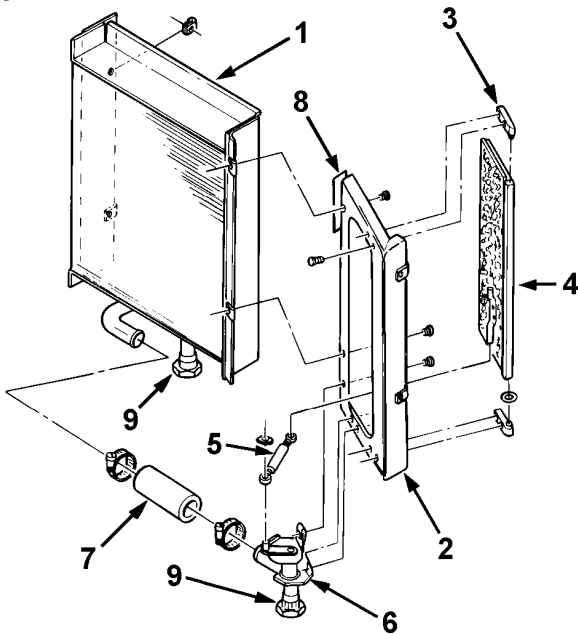

Figure 15 Heater Core and Blend-Air Door Exploded View
The three components covered here are closely related and are serviced as an assembly (Figure 15). While each unit can be removed from the Blend-Air box individually, much time can be saved by removing them as one assembly.
5. Release the clip on the control cable and detach the cable from the blend door (Figure 15).
9. Loosen the clamps on the hose that connects the heater water valve to the heater core (Figure 15).
10. Remove the two screws securing the blend door frame to the heater core to separate the heater core from the door frame (Figure 15).
11. Remove the clip from the water valve operating lever to detach the adjustable link that connects the valve to the blend door (Figure 15).
1. Align the heater water valve to the blend door frame and secure with four mounting screws (Figure 15).
3. Connect the heater core to the water valve with the short length of heater hose. Leave the hose clamps loose (Figure 15).